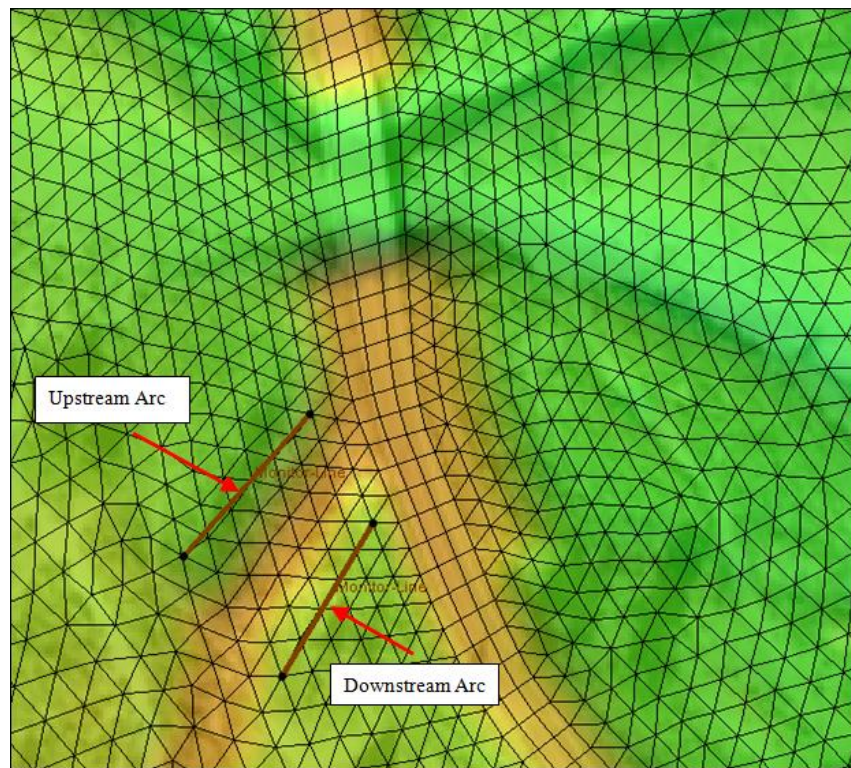

Figure 3 Weir boundary condition arc locations
8. Use the **Create Feature Arc**  tool to create two arcs, one on the upstream face and one on the downstream face. The created arcs should look similar to Figure 3. Do not be concerned about the exact placement of the arcs since they will be modified in the next step.